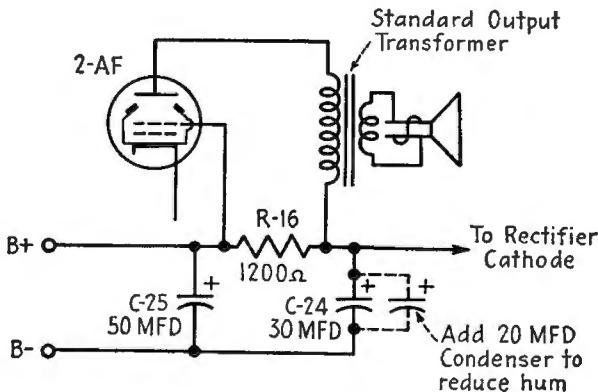

FIG. 18-29.—Replacing a hum-bucking-type output transformer. Method 1.
1. Use the circuit of Fig. 18-29. In case the hum level is high, it may be reduced by adding a 20-mfd/150-volt condenser as shown by the dotted lines.